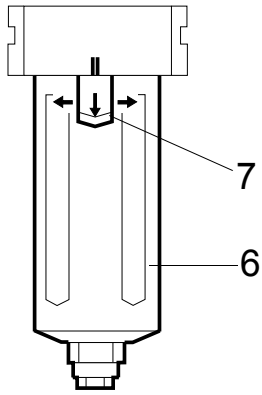

Fig. 14 Locking the main filter housing in place
- 8 Fit housing (Fig. 14/6) and rotate until markings (II) are aligned and interlock (Fig. 14/7) engages audibly.
- 9 Pull housing (Fig. 14/6) slightly downwards to check whether it is securely engaged.